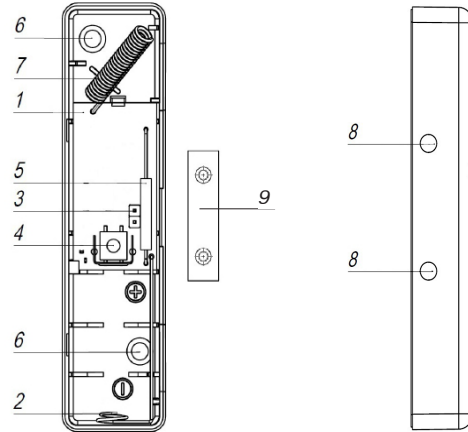

Figure1 – «Ladoga MK-RK» ver. 4
8.1 Arrange the magnet at the side where built-in magnetic contact is located, as it is shown in Figure 1.